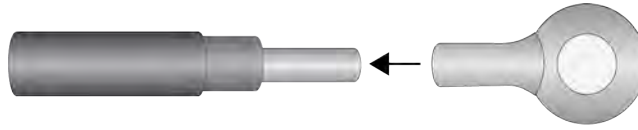

Figure 34. Sliding the Ring Terminal Lug on the Grounding Wire
- Slide the ring terminal lug over the stripped wire on the grounding wire. Refer to Figure 34.